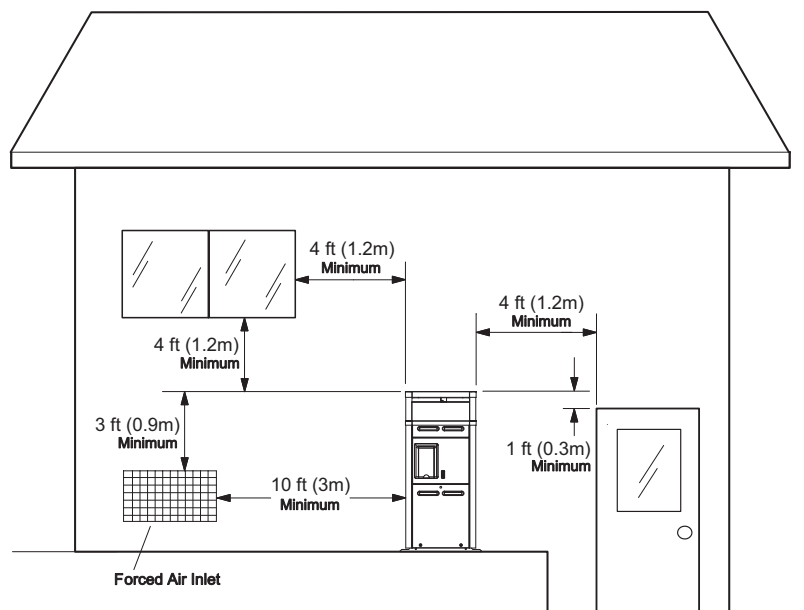

Fig. 5: Outdoor Installation Clearances
- For U.S. installations, the point from where the flue products exit the heater must be a minimum of 4 ft (1.2m) below, 4 ft (1.2m) horizontally from, or 1 ft (0.3m) above any door, window or gravity inlet into any building. The top surface of the heater shall be at least 3 ft (0.9m) above any forced air inlet, or intake ducts located within 10 ft (3m) horizontally. See Fig. 5.